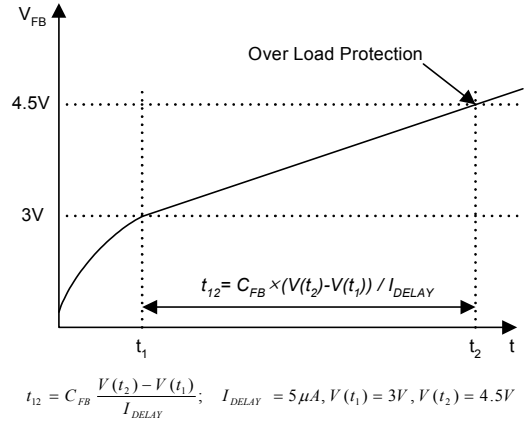

Figure 10. Over Load Protection (OLP)
4.1 Over Load Protection (OLP) : Overload is defined as the load current exceeding a pre-set level due to an unexpected event. In this situation, the protection circuit should be activated in order to protect the SMPS. However, even when the SMPS is operating normally, the over load protection (OLP) circuit can be activated during the load transition. In order to avoid this undesired operation, the OLP circuit is designed to be activated after a specified time to determine whether it is a transient situation or an overload situation. In conjunction with the Ipk current limit pin (if used) the current mode feedback path would limit the current in the Sense FET when the maximum PWM duty cycle is attained. If the output consumes more than this maximum power, the output voltage (Vo) decreases below its rating voltage. This reduces the current through the opto-coupler LED, which also reduces the opto-coupler transistor current, thus increasing the feedback voltage (VFB). If VFB exceeds 3V, the feedback input diode is blocked and the 5uA current source (IDELAY) starts to charge Cfb slowly up to Vcc. In this condition, VFB increases until it reaches 4.5V, when the switching operation is terminated as shown in Figure 10. The shutdown delay time is the time required to charge Cfb from 3V to 4.5V with 5uA current source.